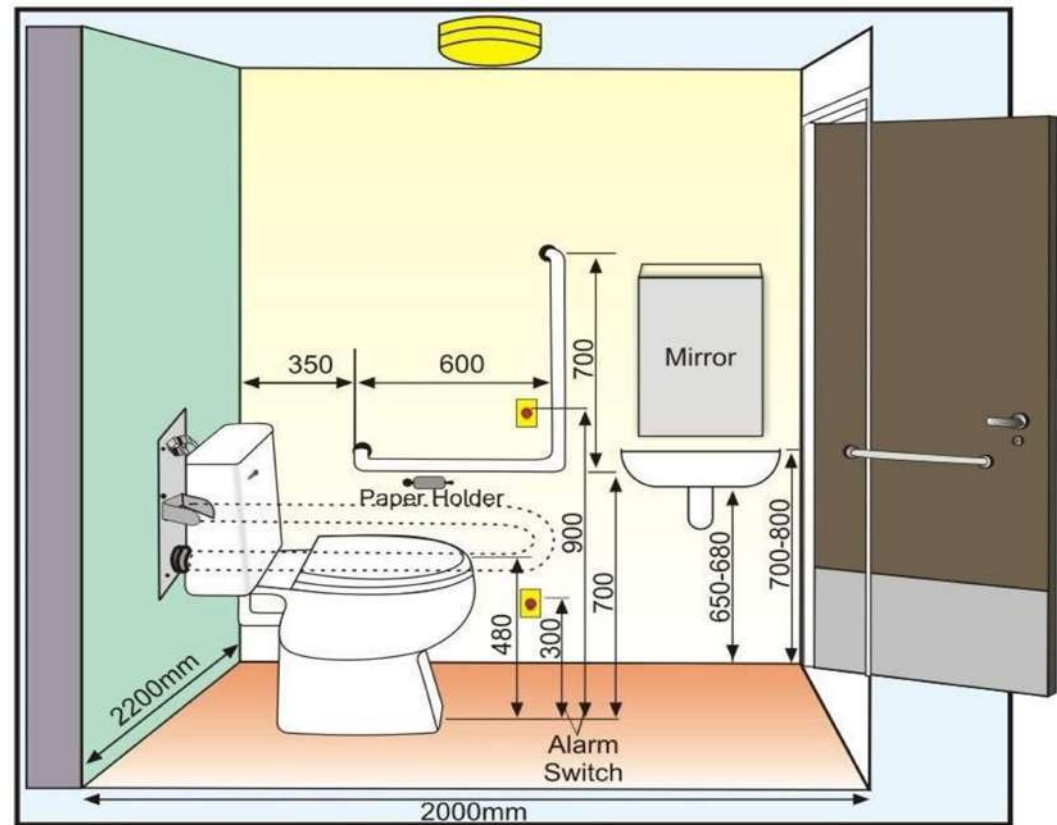

Figure 5.22 Standards for accessible toilet
- Seat of the WC to be 450-480mm from the floor **(Figure 5.22)**.